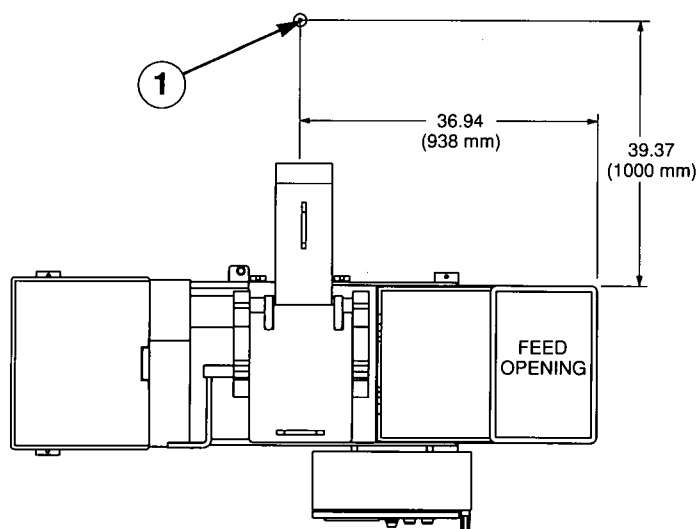

Figure 9 — Maximum sound position. (1) Measurement Position, 63" (1600 mm) from floor.
The amount of noise generated by this machine in use will vary depending on the type, condition and volume of product being cut, the size of cut and the acoustical characteristics of the room in which the machine is installed. A machine in good condition will register approximately 81 dB(A) in a free field over a reflecting plane when run without product and set to produce 9/32" (7 mm) dices. At a height of 63" (1600 mm) from the floor and 39.37" (1000 mm) from the machine, maximum sound position occurs at a point in front of the discharge chute on a standard height machine (Figure 9). Machines set for larger dicing or used without a crosscut spindle will generate less noise when measured under similar conditions.